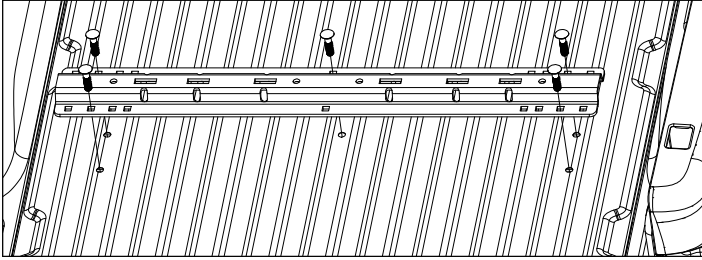
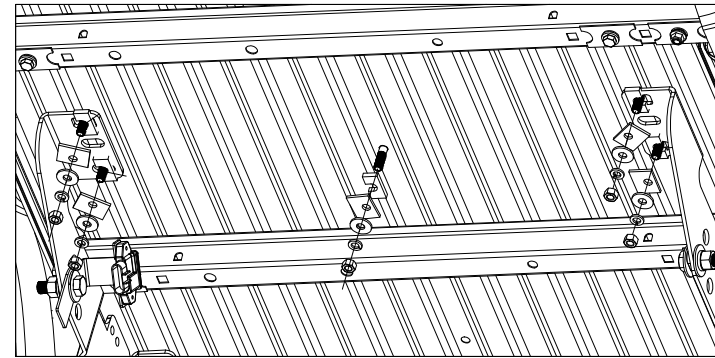

Figure C1: View looking into truck bed from rear of truck.
Figure C2: View under bed looking up toward cab. (Frame not shown)
1. **Install the rear mounting rail.** Re-position the rear mounting rail over the drilled 9/16" holes in the bed. Install a 1/2" Carriage bolt through the mounting rail into each of the five drilled holes, as shown in figure C1. Under the bed install an offset square washer, 1/2" flat washers, 1/2" lock washers and 1/2" finish nuts on each of the carriage bolts, see figure C2. Place the U-shaped spacers. Hand tighten each nut.